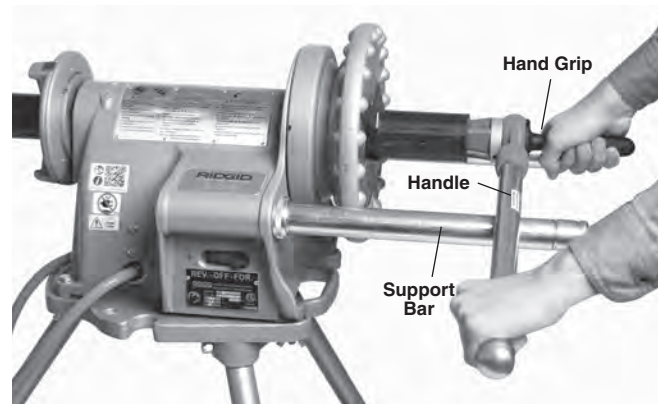

Figure 16 – Reaming Pipe with Hand Reamer, (Keep reamer handle in contact with support bar)
2. Insert reamer into end of pipe as shown in *Figure 16*. Rest the reamer handle on switch side support bar and hold the reamer hand grip with right hand.